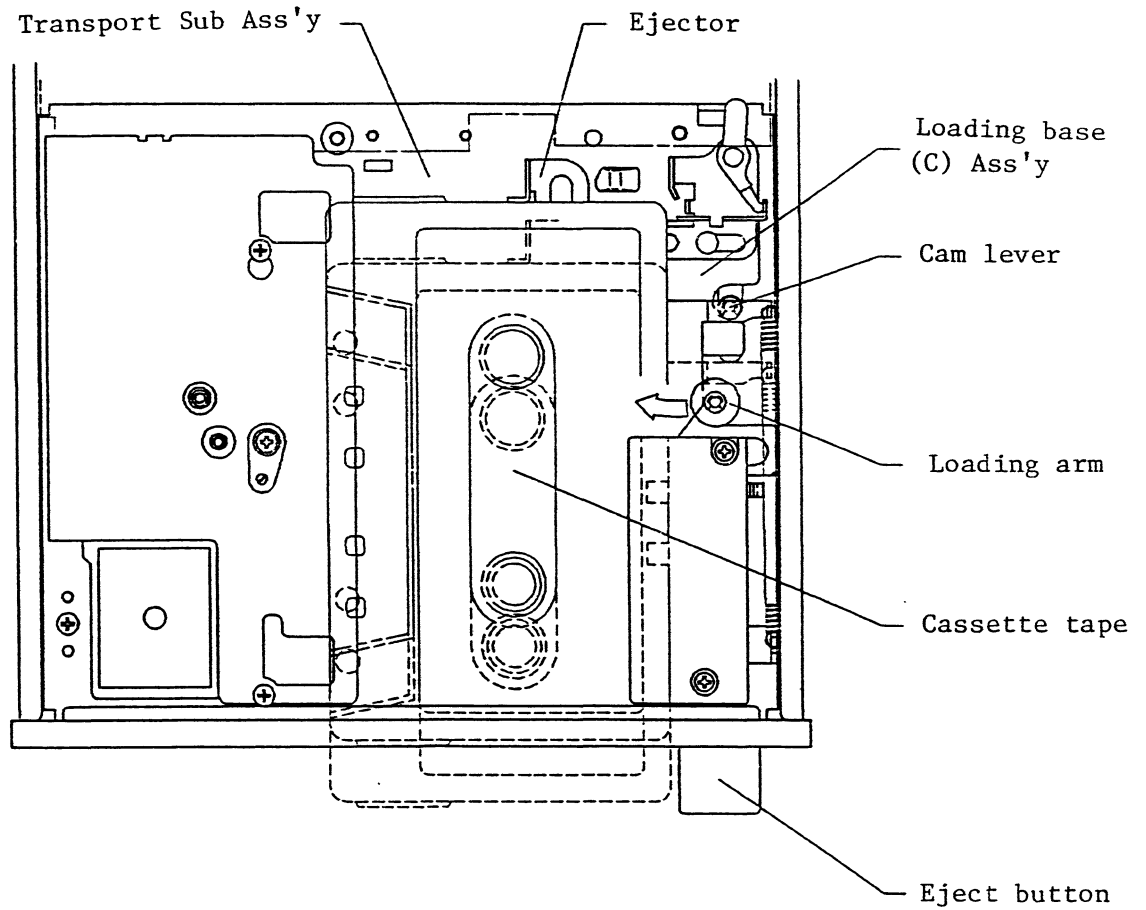

Fig.302 Cassette tape loading/unloading mechanism
When the cassette tape is pushed in up to the front bezel, the ejector on the loading base (C) Ass'y is moved in the direction of insertion, and the cassette tape is attracted automatically together with the ejector by the rotary force of the loading arm. When the stopper of the ejector is released, the loading arm begins to push the cassette tape and the loading base (C) Ass'y at the right angle to the direction of insertion. When the loading base (C) Ass'y reaches the predetermined position, the stopper of the cam lever roller is released, and the reel motor within the chassis is lifted together with the loading base (M) Ass'y, and then the MTU is placed in the cassette loading status (Fig. 302, 303).
When the eject button located at the lower right of the front bezel, the loading base (M) Ass'y is pushed down, and at the same time, the stopper of the loading base (C) Ass'y is released, and the reverse action to item (a) is performed continuously, and the cassette tape gets out up to halfway from the front bezel, and then the MTU is placed in the cassette unloading status (Fig. 302, 303).